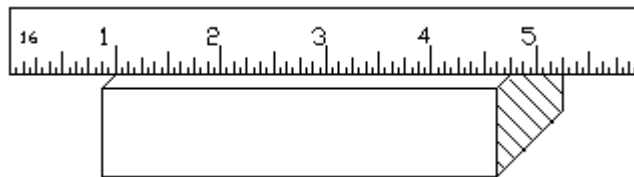

Figure 3
- ✓ To offset this, use an inch graduation as a reference point on the rule (Figure 3). Precision and reliable measurements are possible this way. With the graduation directly on the edge of the work and by not using the end of the rule, wear is inconsequential.